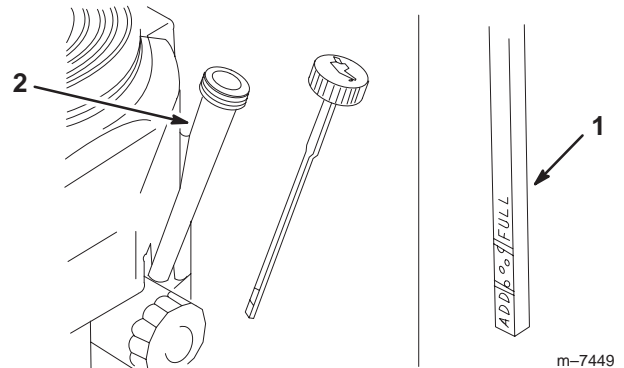

Figure 29
4. Clean around the oil dipstick (Fig. 29) so that dirt cannot fall into the filler hole and damage the engine.
5. Unscrew the oil dipstick and wipe the end clean (Fig. 29).
6. Slide the oil dipstick fully into the filler tube, **but do not thread onto tube** (Fig. 29).
9. Slowly pour approximately 80% of the specified oil (refer to Service Interval/Specification, page 29) into the filler cap (Fig. 29).